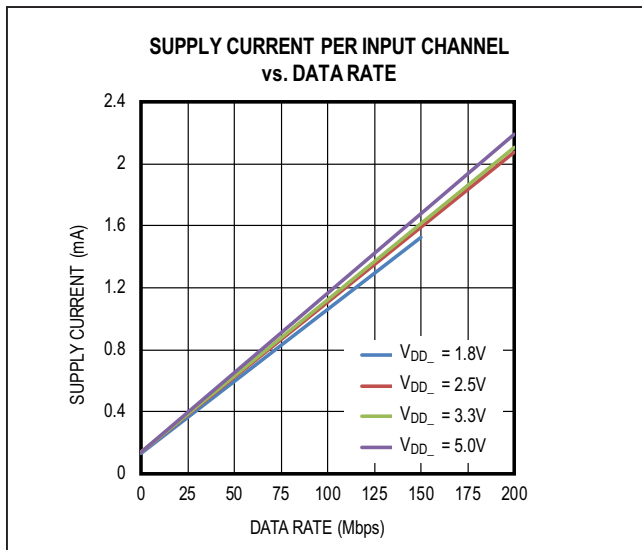
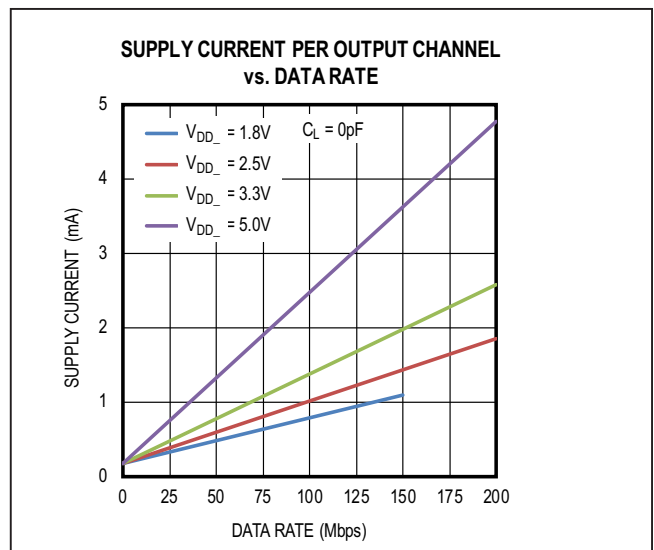

Figure 7. Supply Current Per Input Channel
Figure 8. Supply Current Per Output Channel
The required current for a given supply (V_{DDA} or V_{DDB}) can be estimated by summing the current required for each channel. The supply current for a channel depends on whether the channel is an input or an output, the channel's data rate, and the capacitive or resistive load if it is an output. The typical current for an input or output at any data rate can be estimated from the graphs in Figure 7 and Figure 8. Please note the data in Figure 7 and Figure 8 are extrapolated from the supply current measurements in a typical operating condition.
The total current for a single channel is the sum of the “no load” current (shown in Figure 7 and Figure 8), which is a function of Voltage and Data Rate, and the “load current”, which depends on the type of load. Current into a capacitive load is a function of the load capacitance, the switching frequency, and the supply voltage.
- ISDO operating at 3.3V and 10Mbps, consuming 0.24mA, estimated from Figure 7.
- \overline{IFault} operating at 3.3V and DC, consuming 0.14mA, estimated from Figure 7.
- OAUX operating at 3.3V and 1Mbps, consuming 0.19mA, estimated from Figure 8. I_{CL} on OAUX for 10pF capacitor at 3.3V is 0.017mA.
- OSDI operating at 3.3V and 10Mbps, consuming 0.30mA, estimated from Figure 8. I_{CL} on OSDI for 15pF capacitor at 3.3V is 0.25mA.
- OSCLK operating at 3.3V and 20Mbps, consuming 0.42mA, estimated from Figure 8. I_{CL} on OSCLK for 15pF capacitor at 3.3V is 0.50mA.
- \overline{OCS} operating at 3.3V and 2.5Mbps, consuming 0.21mA, estimated from Figure 8. I_{CL} on \overline{OCS} for 15pF capacitor at 3.3V is 0.062mA.
- IAUX operating at 2.5V and 1Mbps, consuming 0.15mA, estimated from Figure 7.
- ISDI operating at 2.5V and 10Mbps, consuming 0.23mA, estimated from Figure 7.
- ISCLK operating at 2.5V and 20Mbps, consuming 0.33mA, estimated from Figure 7.
- \overline{ICS} operating at 2.5V and 2.5Mbps, consuming 0.16mA, estimated from Figure 7.
- OSDO operating at 2.5V and 10Mbps, consuming 0.27mA, estimated from Figure 8. I_{CL} on OSDO for 15pF capacitor at 2.5V is 0.19mA.
- \overline{OFAult} operating at 2.5V and 1Mbps, consuming 0.18mA, estimated from Figure 8. I_{RL} on \overline{OFAult} for 10k Ω resistor at 2.5V is 0.25mA.